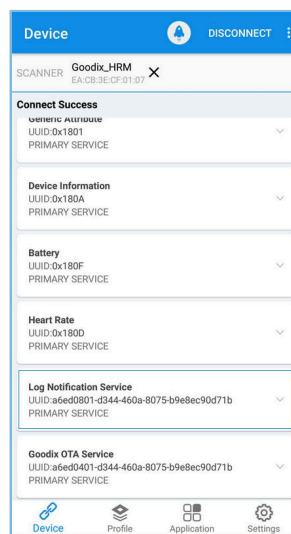

Figure 3-3 Successful discovery of LNS after connecting the phone to the Board on GRTtoolbox
1. Open GRTtoolbox on an Android phone and connect the phone with the SK Board. **Log Notification Service** is then displayed, as shown in Figure 3-3.